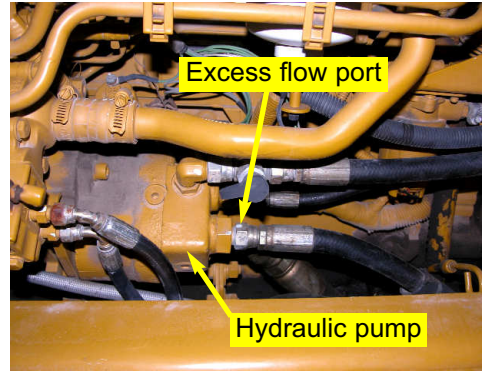

Figure 3a. Excess flow port and hydraulic pump.
a. Locate the hydraulic pump on the left side of the engine. Pressure for the Automated Steering Block will be taken from the excess flow port on the pump. Excess flow from the Automated Steering Block will be relieved to the hose originally attached to the excess flow port of the pump. (Figure 3a.)